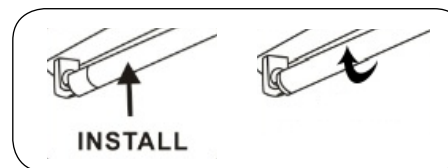

FIG. 2
4. Insert LED T8 replacement lamp, rotate lamp until pins lock in place. (Fig. 2)